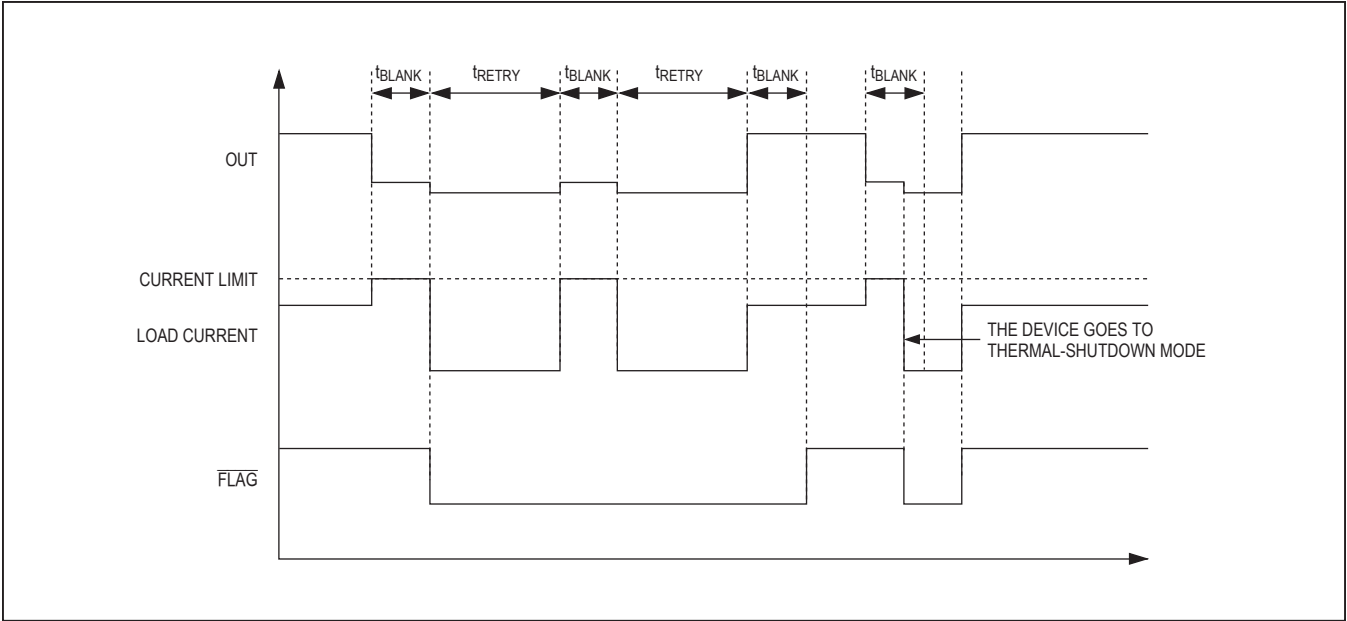

Figure 2. Autoretry Fault Diagram
**Note 2:** Blanking time and retry time are generated by the same oscillator. Therefore, the ratio of  $\frac{t_{RETRY}}{t_{BLANK}}$  is a constant value of 32. See Figures 2 and 3.
When the forward current reaches the current threshold, the  $t_{\text{BLANK}}$  timer begins counting (Figure 2).  $\overline{\text{FLAG}}$  asserts if the overcurrent condition is present for  $t_{\text{BLANK}}$  or longer. The timer resets if the overcurrent condition disappears before the blanking time ( $t_{\text{BLANK}}$ ) has elapsed. A retry time delay ( $t_{\text{RETRY}}$ ) starts immediately after the blanking time has elapsed. During that time, the switch latches off. At the end of  $t_{\text{RETRY}}$ , the switch turns on again. If the fault still exists, the cycle repeats. If the fault has been removed, the switch stays on. During this cycle,  $\overline{\text{FLAG}}$  stays low. In autoretry, if the die temperature exceeds +170°C (typ) due to self heating, the MAX14523A/MAX14523AL go into thermal shutdown until the die temperature drops by approximately 15°C (see the *Thermal Shutdown* section.)